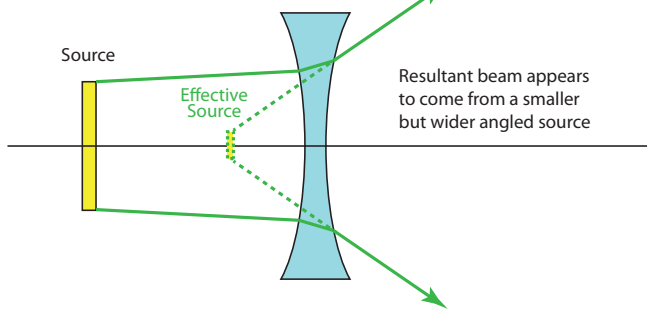

Figure 2 – Etendue conserved
**Figure 2** shows the opposite, this time with a large narrow angled light beam and